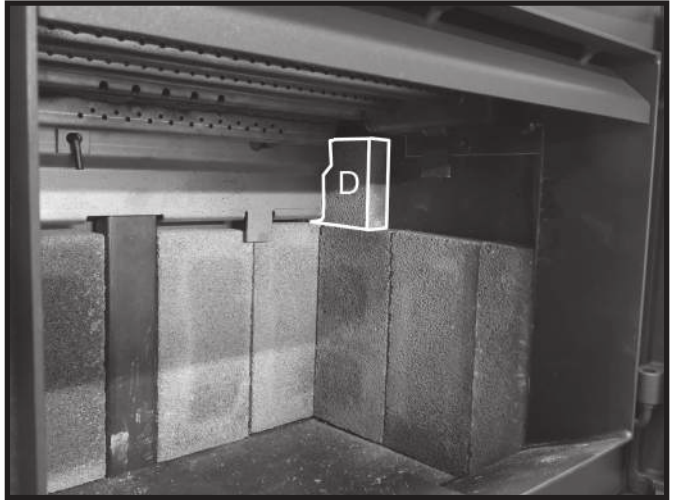

Figure 20: Small side wall firebrick in position.
6. Place a "D" firebrick on top of the previously placed "A" firebricks and slide this firebrick back toward the rear wall making sure that this firebrick tucks in behind the brick rail (Figure 20).